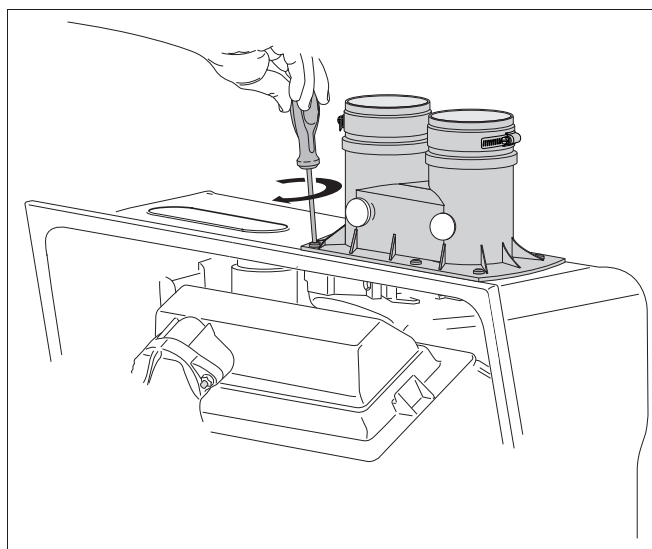

Fig. 15 Connecting the flue gas adapter
- Screw on the flue gas adapter using six screws (see fig. 15).